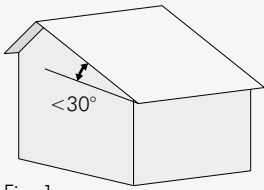

Fig. 1
Working on a roof means on a roof whose slope is less than 30° (Fig. 1) where the operator, to be able to work safely, has to connect him or herself to a horizontal flexible lifeline which has previously been installed on the apex of the roof (A). If such a lifeline is not already present, a temporary lifeline (B) must be installed by a suitably-qualified worker to allow the work to be carried out in safety. Access to the roof is mainly:
**Attention!** When working on a roof it is mandatory to have an emergency kit (10) to be able to rapidly rescue an operator in difficulty, particularly if the person is suspended unconscious. The length of the rope included in the kit must be commensurate with the height of the work site.
Il lavoro su tetto si riferisce esclusivamente a coperture con inclinazione inferiore a 30° (Fig. 1) dove l'operatore, per lavorare in sicurezza, dovrà collegarsi ad una linea vita orizzontale flessibile già installata sulla linea di colmo (A). Qualora questa non sia presente, un operatore con la dovuta qualificazione dovrà installare una linea vita temporanea (B) tramite la quale poter effettuare il lavoro in sicurezza. L'accesso al tetto potrà avvenire: